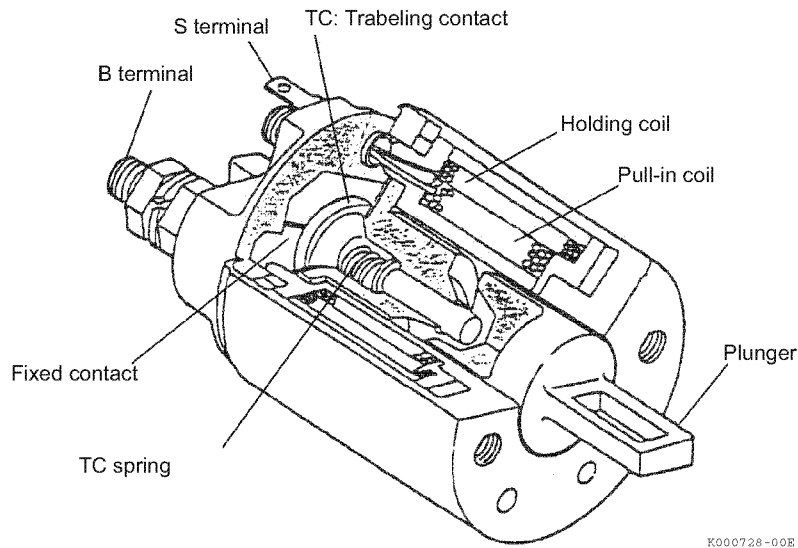
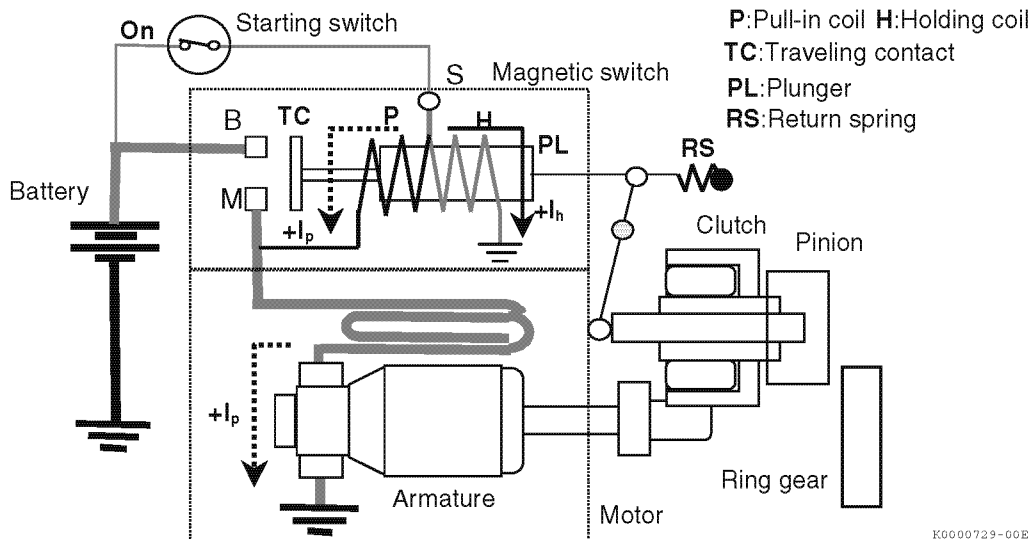
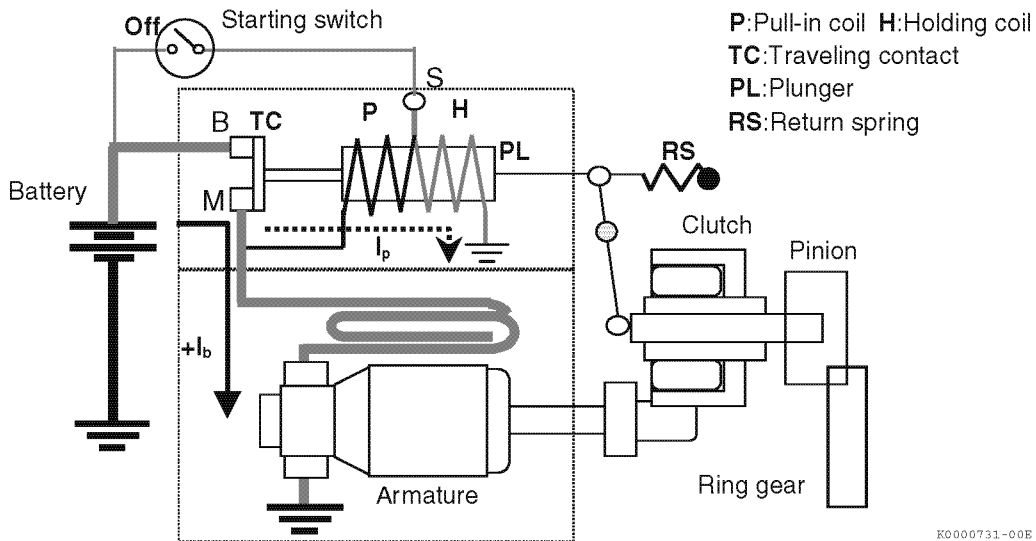

Figure 13-3
Figure 13-4
Figure 13-6
Figure 13-3 illustrates the magnetic starter solenoid. The magnetic switch has the following major functions:
Figure 13-4 shows the starter motor electric circuit to illustrate the movement of the pinion and the moving contact point, and the flow of current.
When the engine has started, the key switch automatically returns to the ON position. **Figure 13-6** shows the flow of current at this moment.
In the state shown in (**Figure 13-6**), both coils are in series connection. Therefore, the magnitude of the current that flows through the coils is the same. However, the direction of the current in the pull-in coil is negative, and the one in the holding coil is positive.
Figure 13-4 shows that pull-in coil P is on the left side of the plunger and holding coil H on the right side. Actually, both coils are in a two-tiered structure as shown in **(Figure 13-3)**. Therefore, though **(Figure 13-4)** describes the flow of current to the left and right separately, it actually flows in the same direction in both coils. That is, the lines of magnetic force of both coils are in the same direction.
- The magnitude of current (I_p) that flows through both coils is the same. The number of turns (T) of both coils is also the same. Therefore, the magnitude of the magnetic force (M_f) produced by both coils ($M_f = I_p \times T$) is the same.
- The direction of the current that flows through pull-in coil P when the starter motor is cranking is left (positive) as shown in **(Figure 13-4)**. The direction of the current that flows through pull-in coil P when the key switch returns to the ON position is right (negative) as shown in **(Figure 13-6)**. On the other hand, the direction of the current that flows through the holding coil when the starter motor is cranking and when the key switch returns to the ON position is the same (positive).
According to (Figure 13-6), the pull-in and holding coils negate their magnetic force at the moment the key switch returns to the ON position. For details, read *When the engine has started on page 13-11* and *Physical characteristics of coils and their structures on page 13-11*.